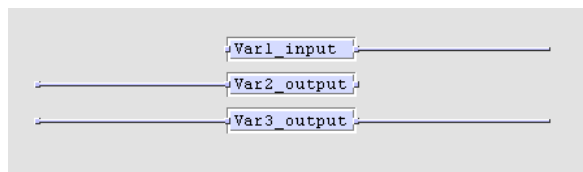

Figure 175: Direction of global variables
- The direction of the variable is determined based on the graphical representation, shown in Figure 175.